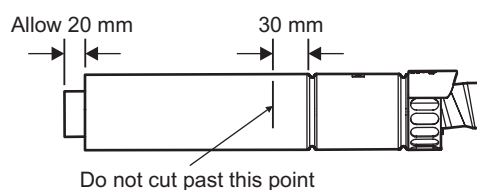

Fig. 5.10
5.7 REDUCING THE FLUE - Fig. 5.10
When the flue length required is less than the minimum stated in Section 5.6, paragraph 1, refer to Fig. 5.10. Discard the first telescopic section (**not** the section with the terminal) of the Easy-Flue 1000 mm or 500 mm and cut to the required length.